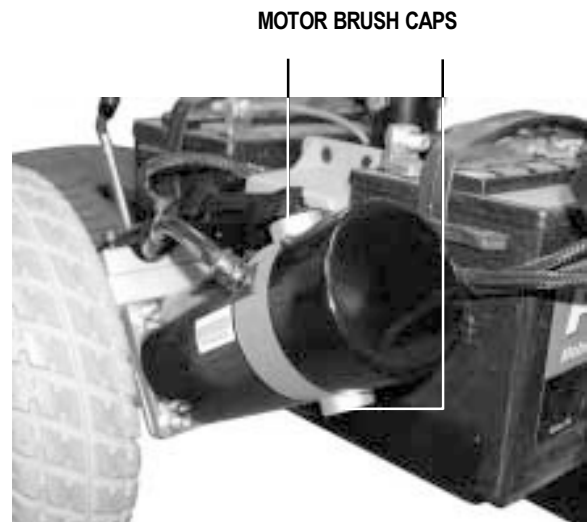

Figure 17. Motor Brush Caps
2. Unscrew the motor brush caps. See figure 17.